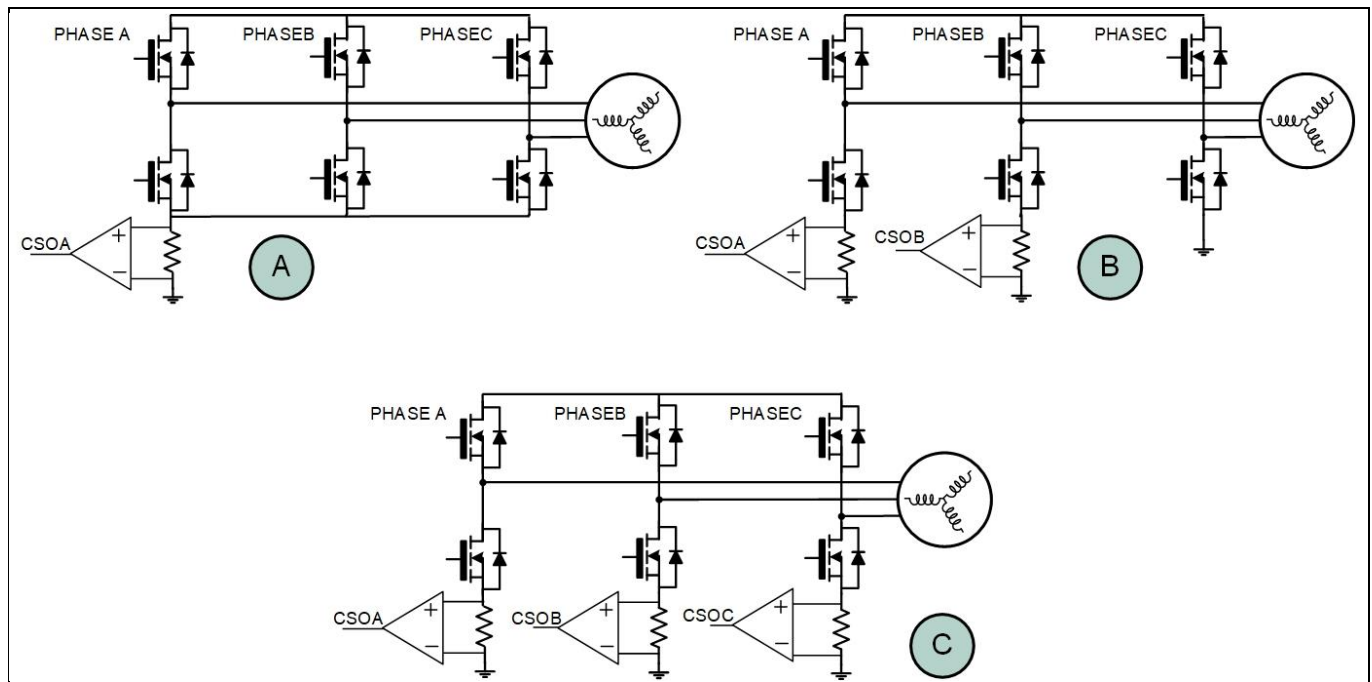

Figure 36 Single (A), dual (B) and triple (C) shunt current sensing configurations are supported
The device integrates three current sense amplifiers that can be used to measure the current in the power inverter via shunt resistors. Single, double or triple shunt measurement are supported as shown in Figure 36.
*Note: RDS(ON) mode is only possible in 3 shunt mode (mode C in Figure 36)*